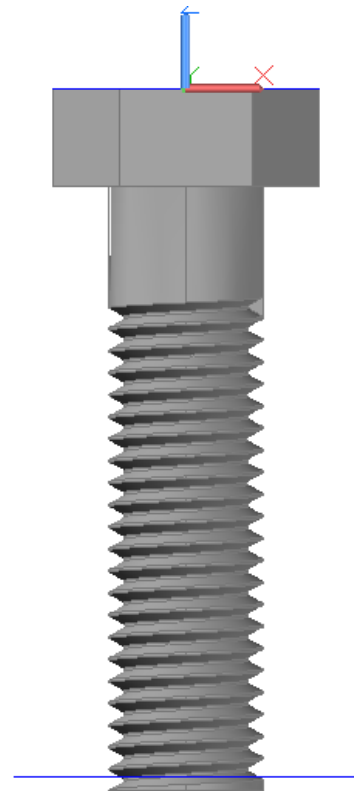

Figure Step 15
Step 15 Set the current view to Front. Move the circle 0.0625 inches in the positive Z direction. (Figure Step 15)